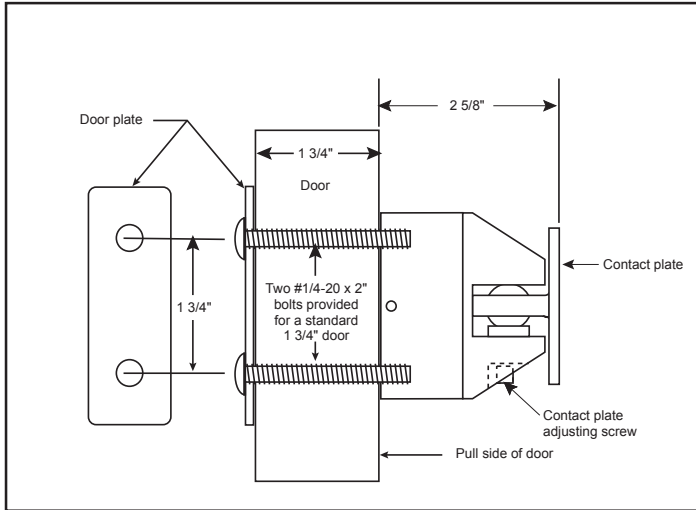
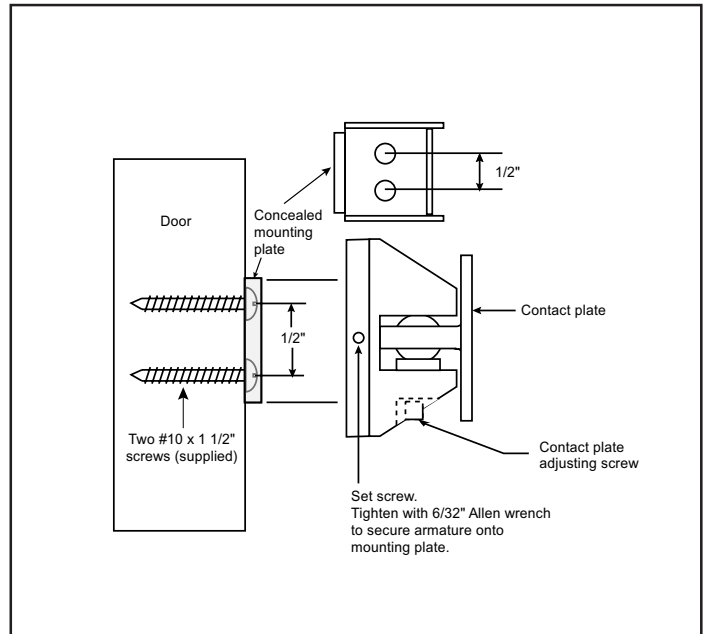

Figure 3. (Thru-bolt mounting)
Figure 4. (Surface concealed mounting)
1. Using a 5/32" Allen wrench, turn the contact plate adjusting screw (Figures 3 & 4) counterclockwise just enough to loosen the contact plate.
4a. Thru-bolt mounting (Figure 3). Recommended for standard 1-3/4" hollow metal, hollow core, or composite type wood doors. Center punch the two marked points and drill 5/16" diameter through door. The distance between their center should equal 1-3/4". If a 2" door is used, two (2) 2-1/4" long 1/4 - 20 bolts are recommended (Figure 3).
4b. Surface concealed mounting (Figure 4). Not recommended for hollow metal, hollow core or composite type wood doors. Center punch the two marked points and drill 1/8" diameter 1-1/4" deep. The distance between their center points should equal 1/2". Install the concealed mounting plate using the two #10 X 1-1/2" screws provided (Figure 4).
5. Secure the armature assembly to door, using Figure 3 or Figure 4 as a guide. The contact plate adjusting screw should face upward.